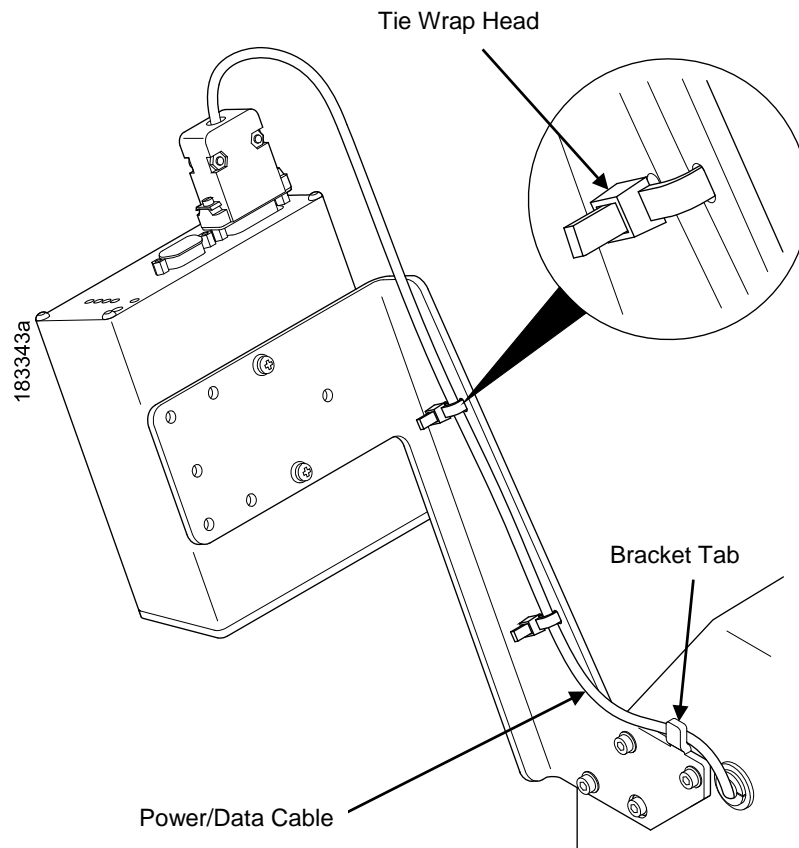

Figure 16 Securing the Power/Data Cable
4. Route the tie wrap back through the second upper slot and underneath the power/data cable and then through the tie wrap head, as shown in Detail A of Figure 16.
7. Route the power/data cable behind the bracket tab as shown in Figure 16.